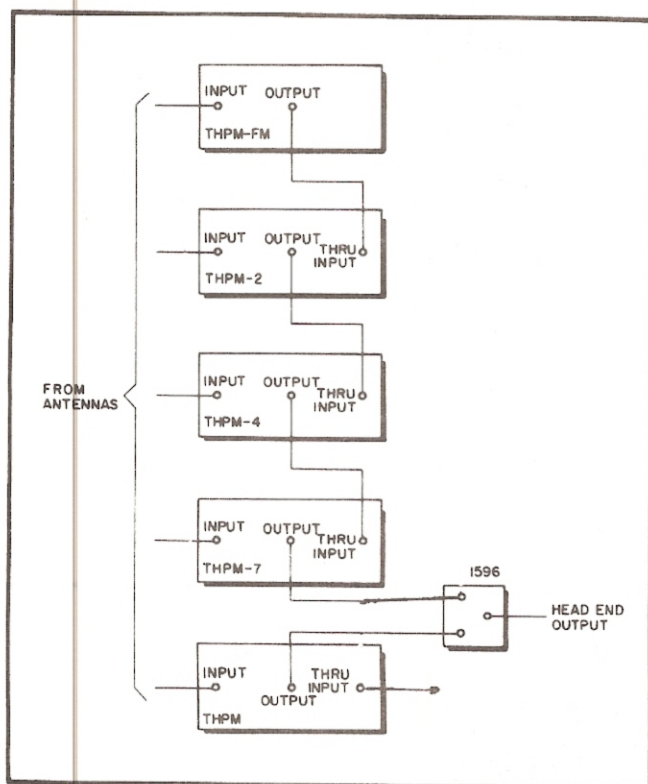

Fig. 1 Typical THPM-* Head End, Block Diagram
2. The outputs of TV units handling semi-adjacent channels are mixed through the THRU INPUT terminals. Mixing is done from the lower to the higher channels. Where an FM unit is used, it should be connected at the low end of the chain. The outputs of TV units handling adjacent channels are mixed through splitters such as Jerrold Model 1596B or 1597A. See Fig. 1.
3. The outputs of TV units handling adjacent channels are combined through mixers such as Jerrold Model 1596B (two units) or 1597A (up to four units). See Fig. 1.